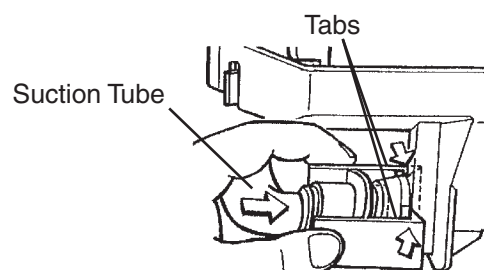

Fig. 35
4. Reconnect the suction tube as illustrated. See Fig. 35. Make sure the tabs lock into place; a loose fitting may cause a water leak.